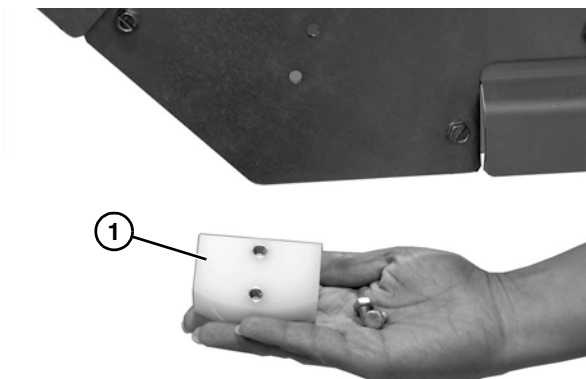

**Figure 67**
3. Remove the cap screw (**Figure 67, item 1**) and the hold down roller (**Figure 67, item 2**). Repeat on opposite side of the conveyor.